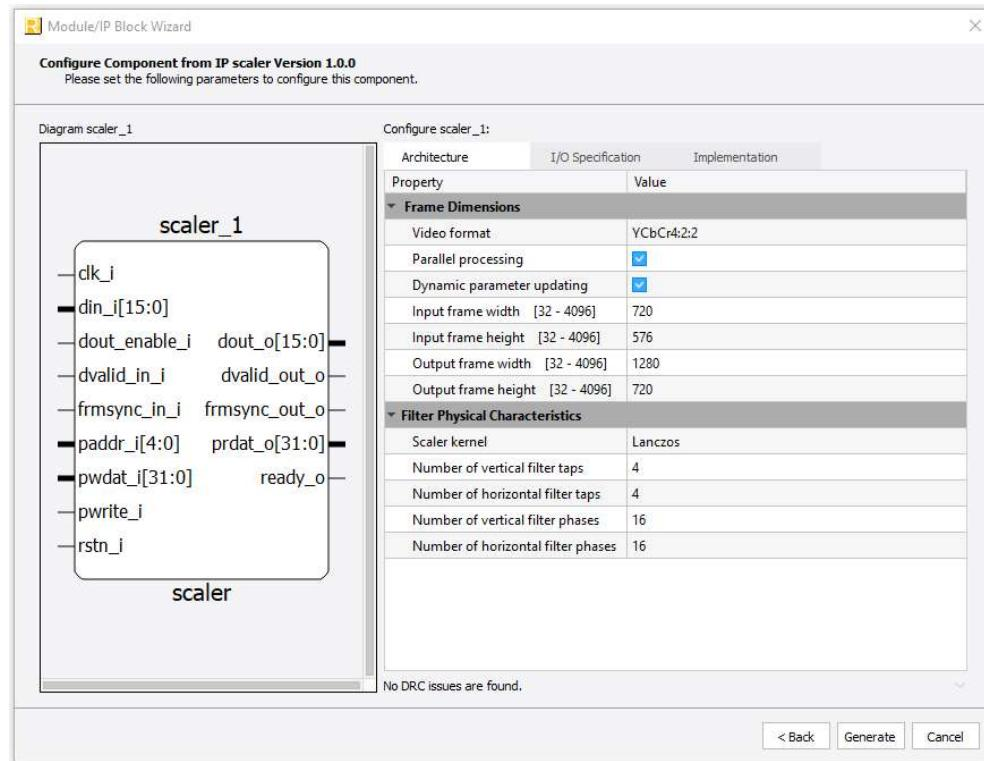

Figure 3.2. Configure User Interface of 2D Scaler IP Core
3. In the module's dialog box of the **Module/IP Block Wizard** window, customize the selected 2D Scaler IP Core using drop-down menus and check boxes. As a sample configuration, see Figure 3.2. For configuration options, see the Attribute Summary section.